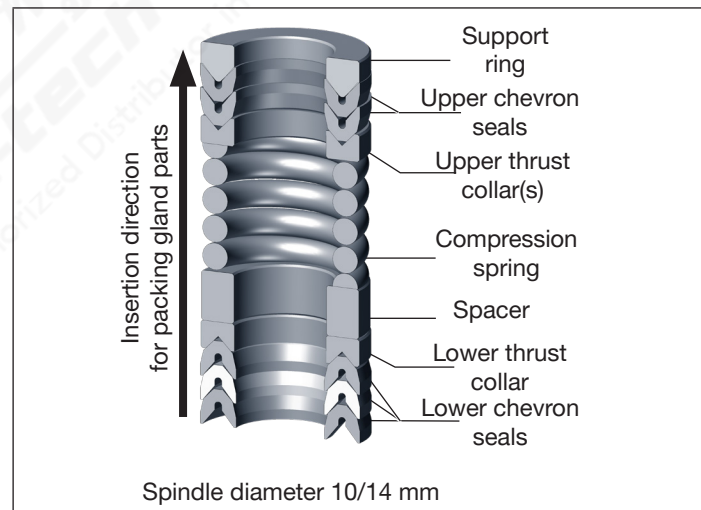
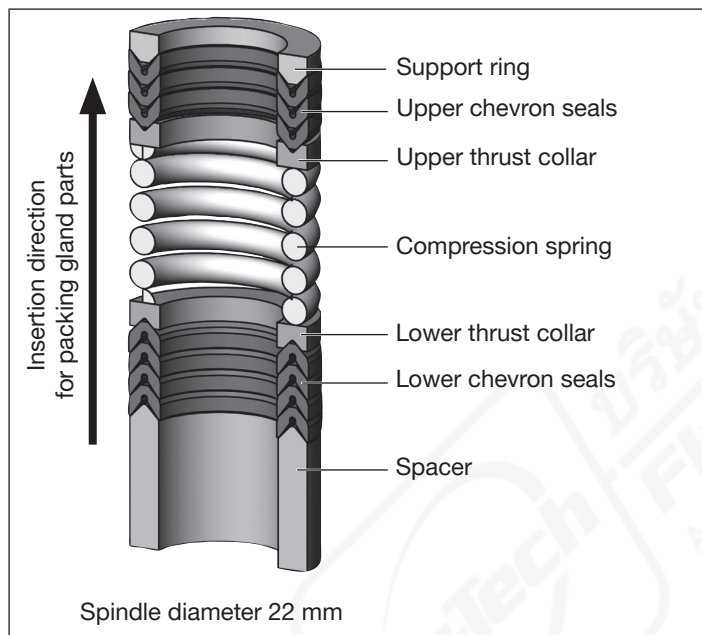

Fig. 35: Seal set for packing gland SP10/SP14
Fig. 36: Seal set for packing gland SP22
- Place individual parts on the spindle in the specified direction and sequence (see „Fig. 35“ or „Fig. 36“).